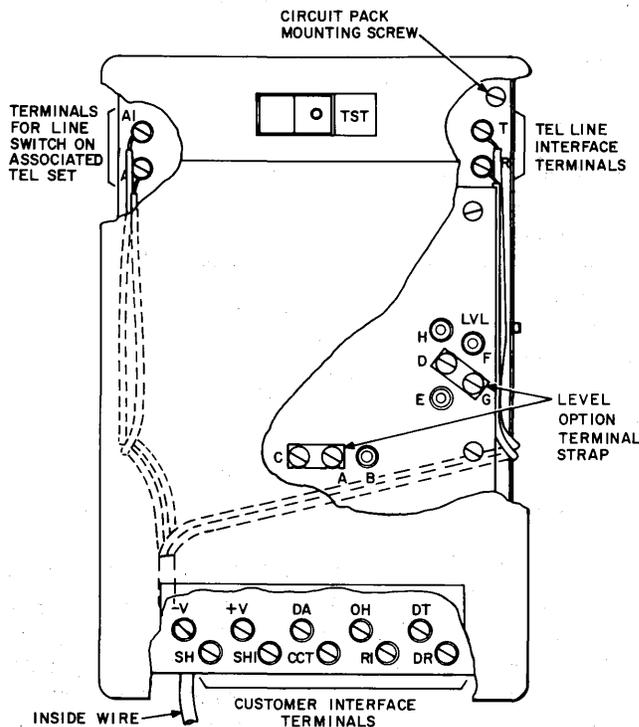

Fig. 2—Route of Station Wiring and Location of Terminals
2.02 Circuitry for the coupler is mounted on two printed CPs (Fig. 2). Ten screw terminals at the lower end of the bottom CP provide the interface for connection to customer equipment. Interface control leads use contact closures for signaling. See Table A for lead designations. The cord required for connecting the customer modem to the interface must be supplied by the customer.